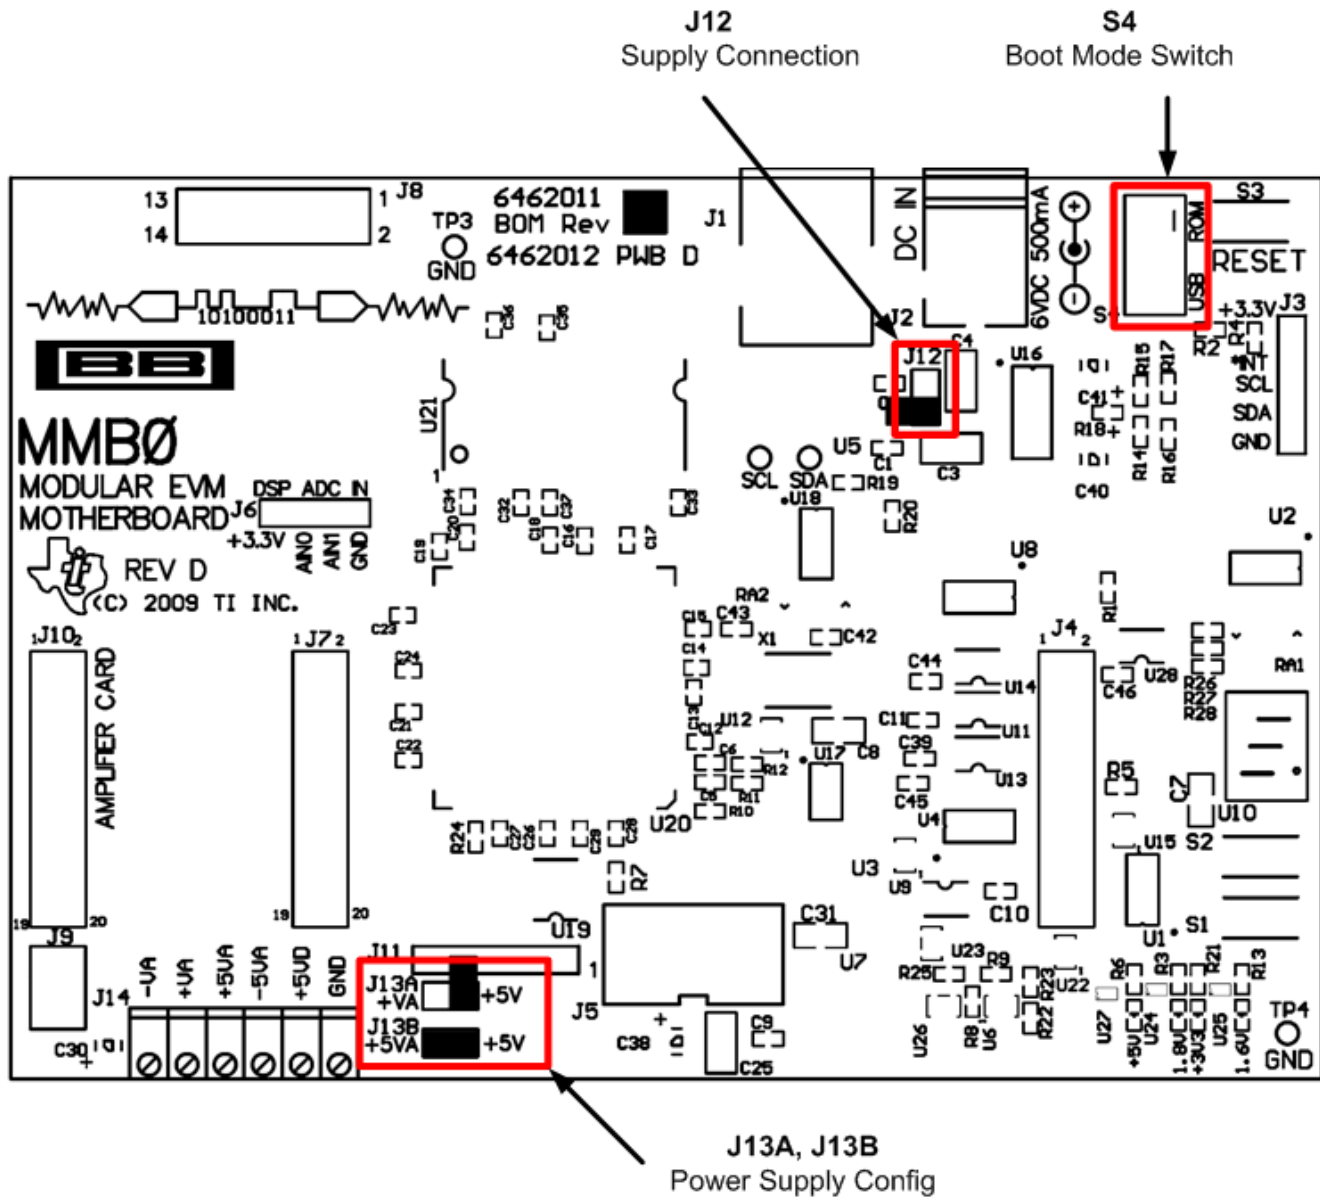

Figure 4. MMB0 Initial Setup
- Step 2. Set the jumpers and switches on the MMB0 as shown in Figure 4.